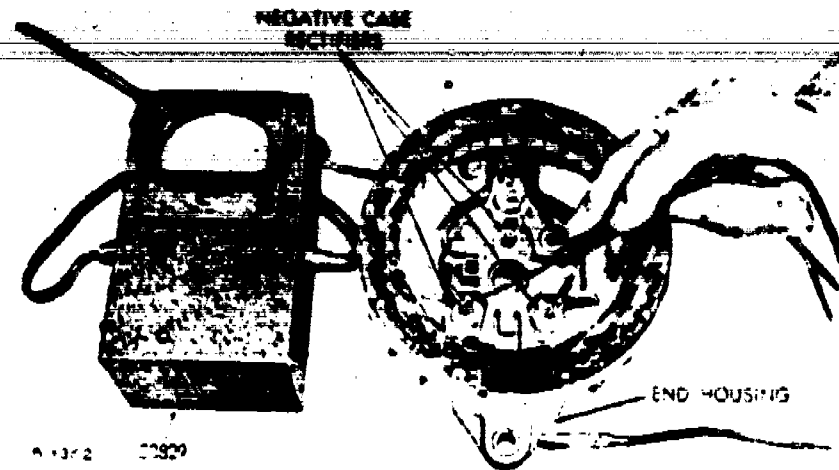

Figure 26. Testing Negative (Typical).
| <p>1. Test negative case diodes in the end housing.</p> <p>a. Connect alligator clip of diode tester to the end housing.</p> <p>b. Touch the test prod to the base wire of the diode leads at the diodes.</p> <p>c. Meter will indicate the condition of the diodes.</p> | <p>2. Refer to figure 26.</p> <p>a.</p> <p>b.</p> <p>c. The test indications are the same for the negative case diodes as for the positive case diodes in the heat sink. However, the meter will read at the opposite end of the scale. Refer to item 1d above.</p> |